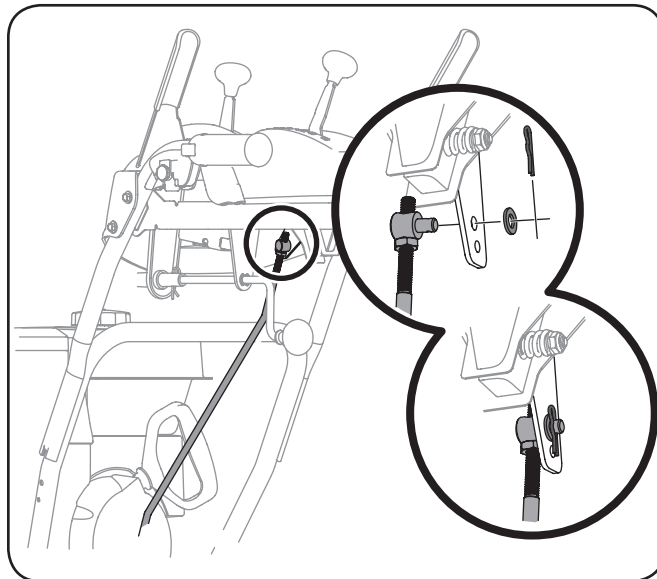

Figure 3-19
7. Remove the cotter pin and washer from the ferrule on the end of the shift rod. See Figure 3-19 inset.